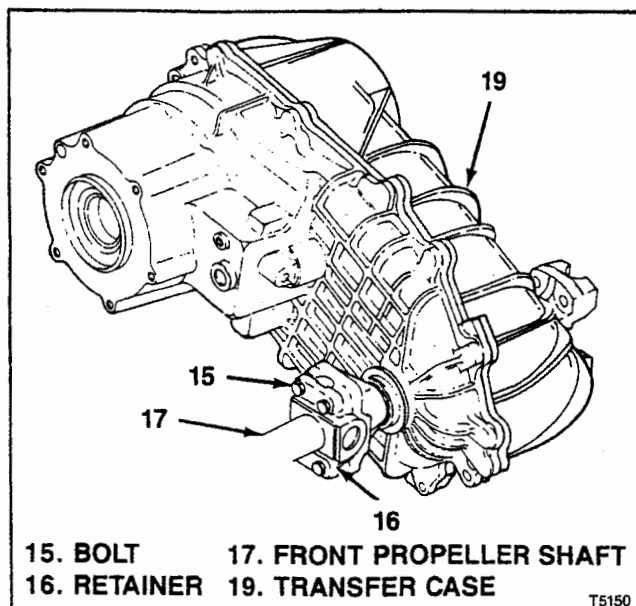

Figure 2-3. Front Propeller Shaft
2-18. REMOVING TRANSFER CASE (4-WHEEL DRIVE VEHICLES ONLY). On 4-wheel drive vehicles, proceed as follows to remove transfer case (see figure 2-3 and 2-4 and refer to WARNING following paragraph 2-14, step a):
- a. Remove front propeller shaft (17, figure 2-3) by removing bolts (15) and retainers (16). Observe same precautions in handling front propeller shaft as for rear propeller shaft (refer to paragraph 2-17).
2-24. **INSTALLING TRANSFER CASE (4-WHEEL DRIVE VEHICLES ONLY).** On 4-wheel drive vehicles, proceed as follows to install transfer case (see figure 2-3 and 2-4):
e. Make sure mounting holes in transmission (10) and transfer case (19) are aligned and install bolts (18). Torque bolts to 23 lb-ft (31 Nm). Remove jack or stand.
g. Make sure front propeller shaft (17, figure 2-3) is properly lubricated and install. Attach to transfer case (19) with retainer (16) and bolts (15). Torque bolts to 15 lb-ft (20 Nm).